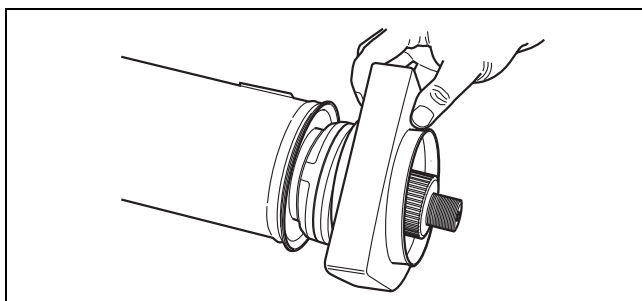

Figure 9.10
2. Remove and discard the rubber cushion. Figure 9.10.